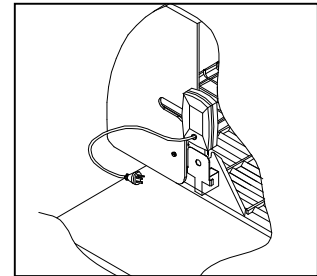

Fig.2
2. Slide rotisserie Motor over Bracket. (See Fig. 2)